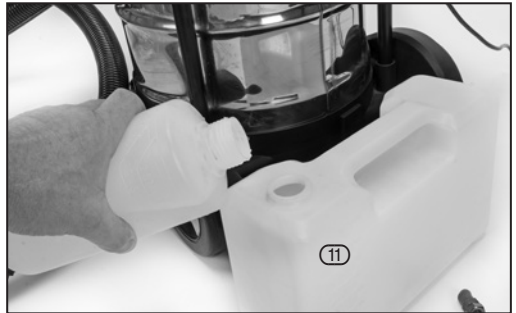

FIG. 17
9.2 FILL THE SHAMPOO TANK – FIG. 17
- Fill the shampoo tank (11) with as much correctly diluted anti-foam shampoo (Draper Stock No.28801) as required. Always follow the shampoo manufacturer's direction ratios. The shampoo tank has a capacity of approximately 4 litres.